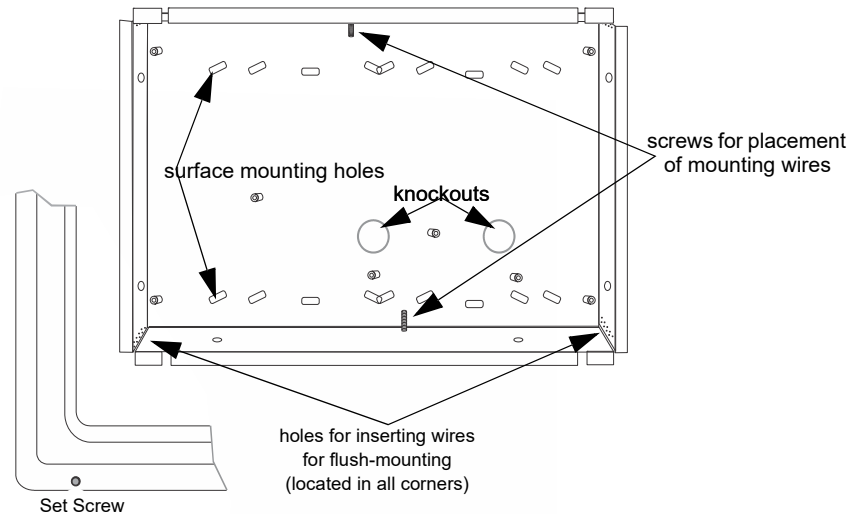

Figure 4.20 Annunciator Backbox and Bezel Details
The RA-1000/R comes from the factory fully assembled. You must disassemble it for mounting. To disassemble the annunciator, use a 5/64 hex wrench to remove the set screws, located on the bottom of the annunciator bezel. (See Figure 4.20 for location of the set screws.)
1. Drill holes in the surface to match the screw holes on the backbox. Refer to Figure 4.20 for locations.
5. Replace the electronic assembly in the backbox. Place the bezel over the backbox and tighten the set screws on the bezel. Refer to Figure 4.20 for location of set screws.